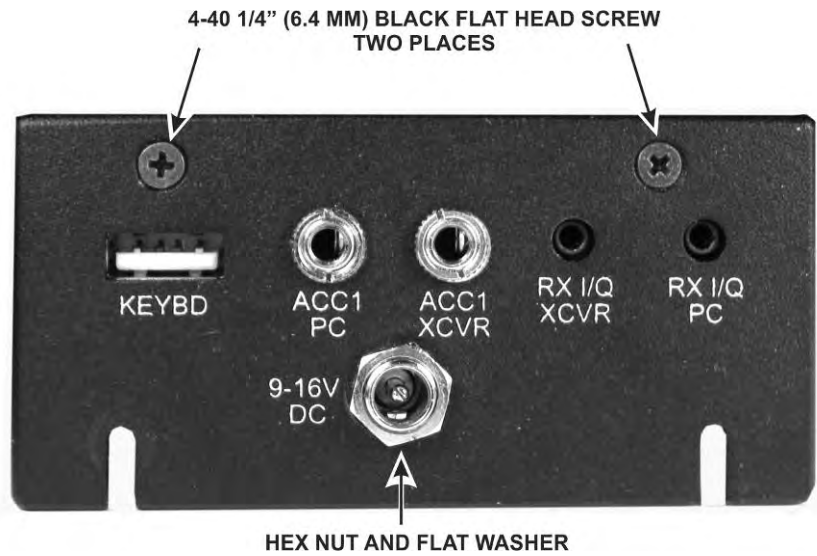

Figure 36. Mounting the Left Side Panel.
- Add the hex nut and washer on the power connector and the two flat head screws as shown in Figure 36 to complete mounting the left side panel.
To remove the boards, first remove the nuts on the connectors on the left side panel, and then the two screws holding the side panel on the front panel assembly (See Figure 36 on page 46).